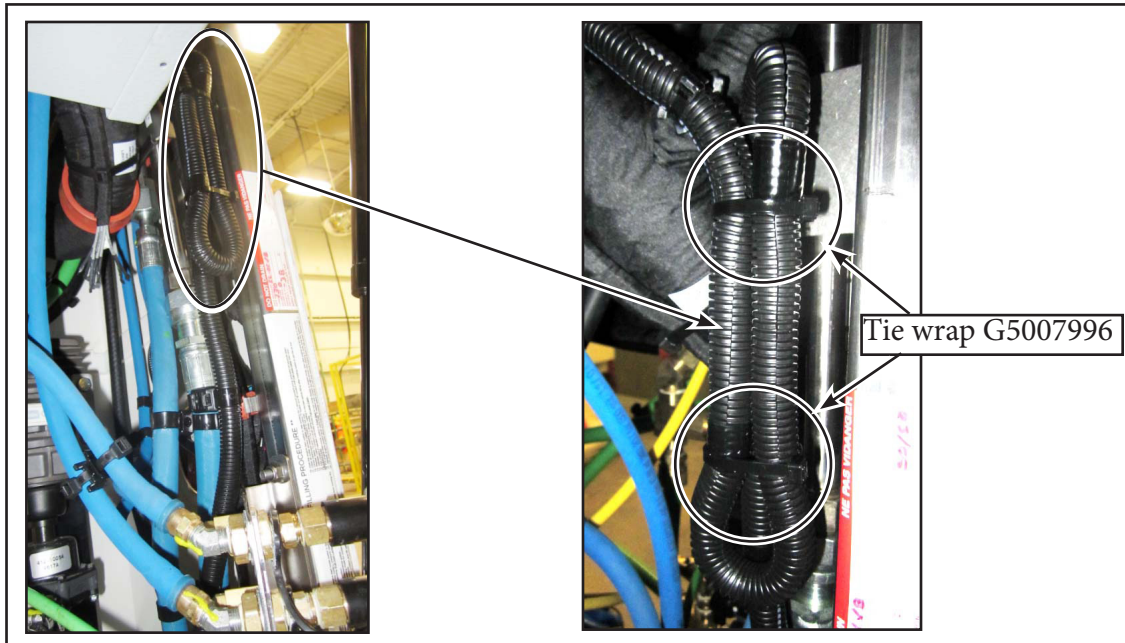

Figure 14 - Secure Excess Length of the Bypass Cable Wire Kit
- 1.14. Secure the excess length of the bypass cable wire kit onto the existing wire harness with two G5007996 tie wraps (see Figure 14).